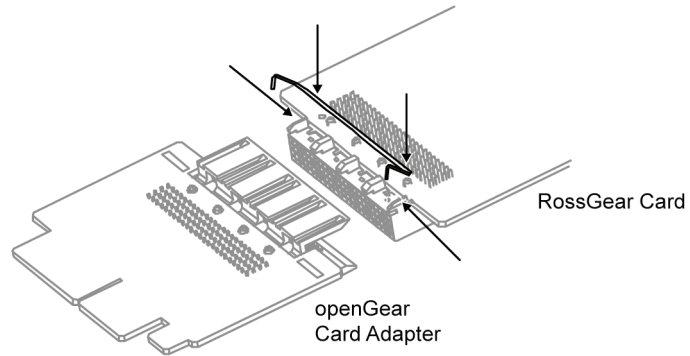

Figure 7. Positioning the openGear Adapter Retaining Clip — Top View
3. Grip the openGear Adapter Retaining Clip, with the hooks facing down, and position it between the connector and the card-edge of the RossGear Card. Refer to **Figures 7 and 8** for details.